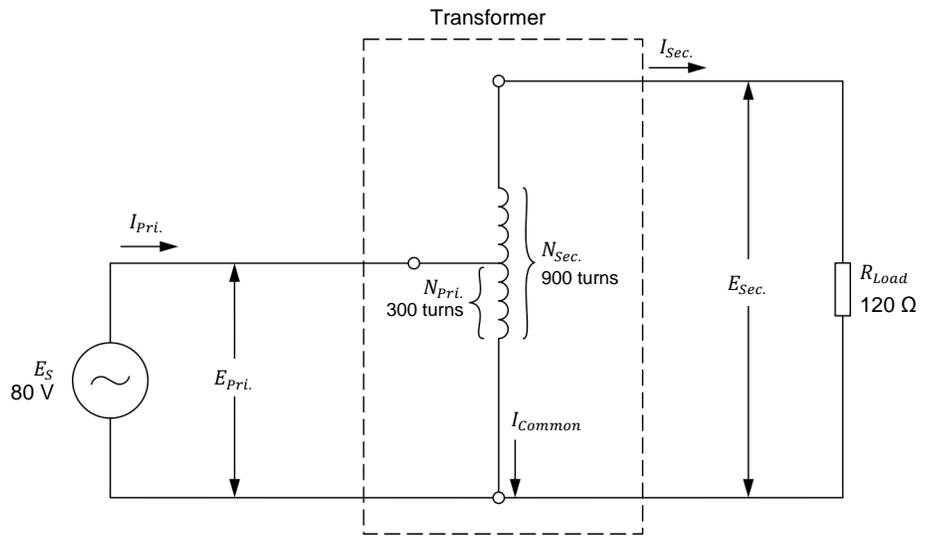

Figure 44. Step-up autotransformer.
4. Consider the step-up autotransformer shown in Figure 44. Assuming that this autotransformer has 300 turns of wire in the primary winding and 900 turns of wire in the secondary winding, calculate the value of the current I_{Common} flowing in the lower part of the autotransformer winding.